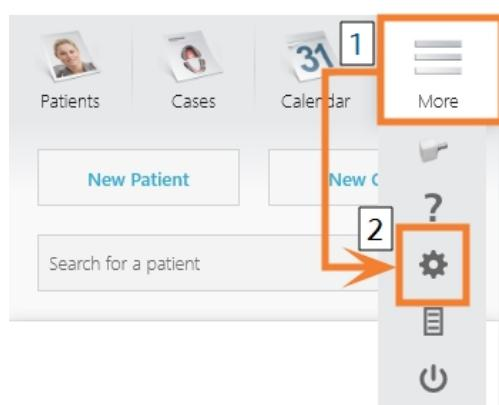

FIG. 16 OPENING THE SETTINGS IN TRIOS DESIGN STUDIO
7. In the menu bar, select **More**. In the drop-down menu, select the **Settings** icon (Fig. 16 see below).